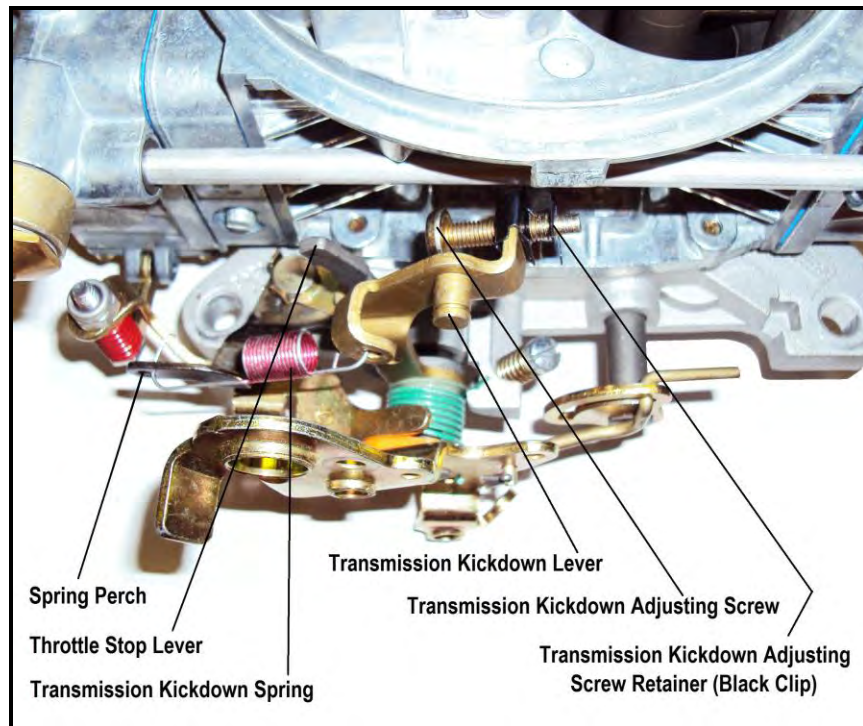

**Figure 1—Chrysler applications**
1. If you are replacing an existing Holley® carburetor, you may need to purchase and install a throttle lever extension (Holley® P/N 20-7) on the carburetor. Remove the throttle stud and nut from the original carburetor. You can purchase a new stud from your Holley® dealer (Holley® P/N 20-67). Install the stud in the throttle extension lever (Figure 1).